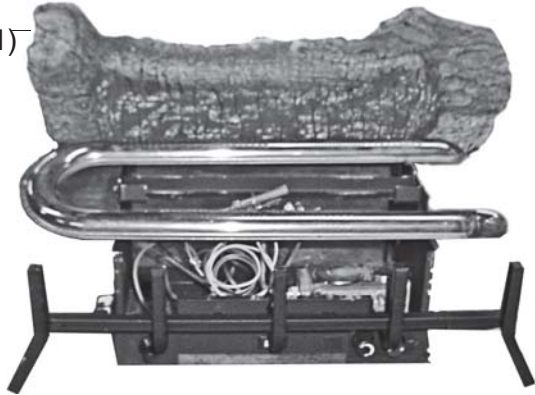

Figure 24 - Installing Rear Log (#1)
1. Place Rear Log (#1) on rear support. *See Figure 24.*